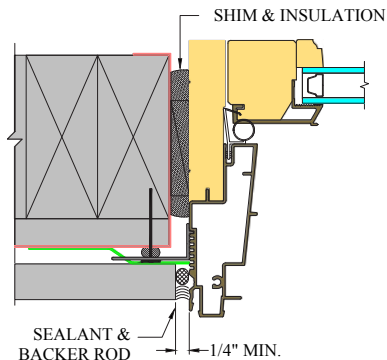
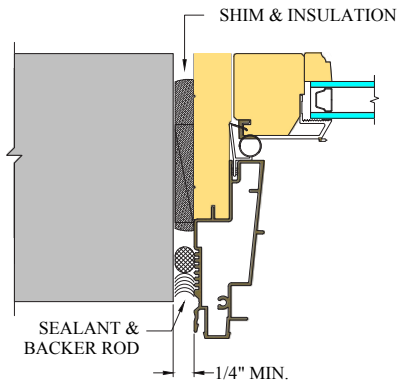

FIG. 28: SIDE JAMB –
FIG. 30: SIDE JAMB – NO NAIL FIN INSTALLATION
- After siding or wall exterior is complete, apply backer rod and sealant between the door frame and siding material on both sides. See figures 28 and 29 for nail fin installation and figures 30 and 31 for no nail fin installation.
- C) Insulate between the door frame and the rough opening using minimally expanding window and door spray foam insulation. Use caution to not overfill the gap causing the jambs to bow. It is not recommended to apply trim to the unit until the foam has cured to allow the excess to escape. (Fig. 28, 29, 30 & 31)